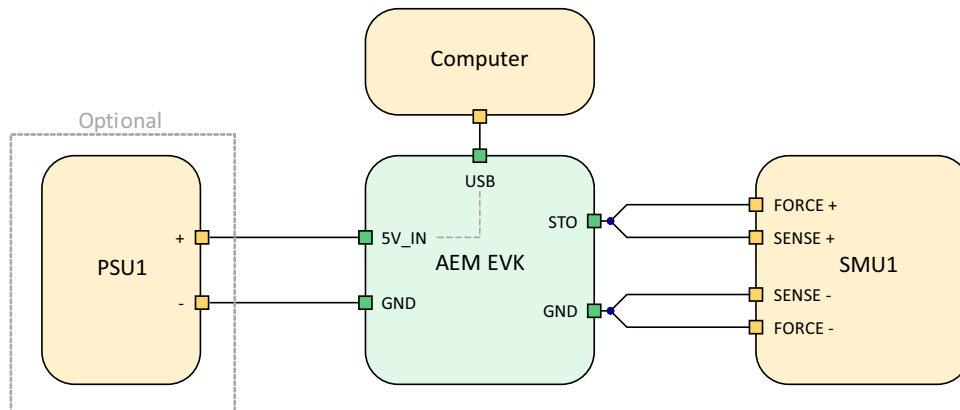

Figure 4: 5V charger APM calibration base setup
- Optional: as shown in Figure 4, a PSU can be used as energy source for the 5V charger if the user does not want to pull the charging current USB from the computer.
Wire the equipment as shown in Figure 4.
Referring to Figure 4, configure SMU1 as follows: